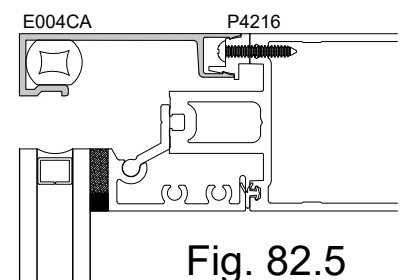

Fig. 82.5
STEP 3: Using a rubber mallet and piece of wood blocking place E004CA trim over P4216 PVC separator and tap into place until trim snaps over P4216, Fig. 82.5.